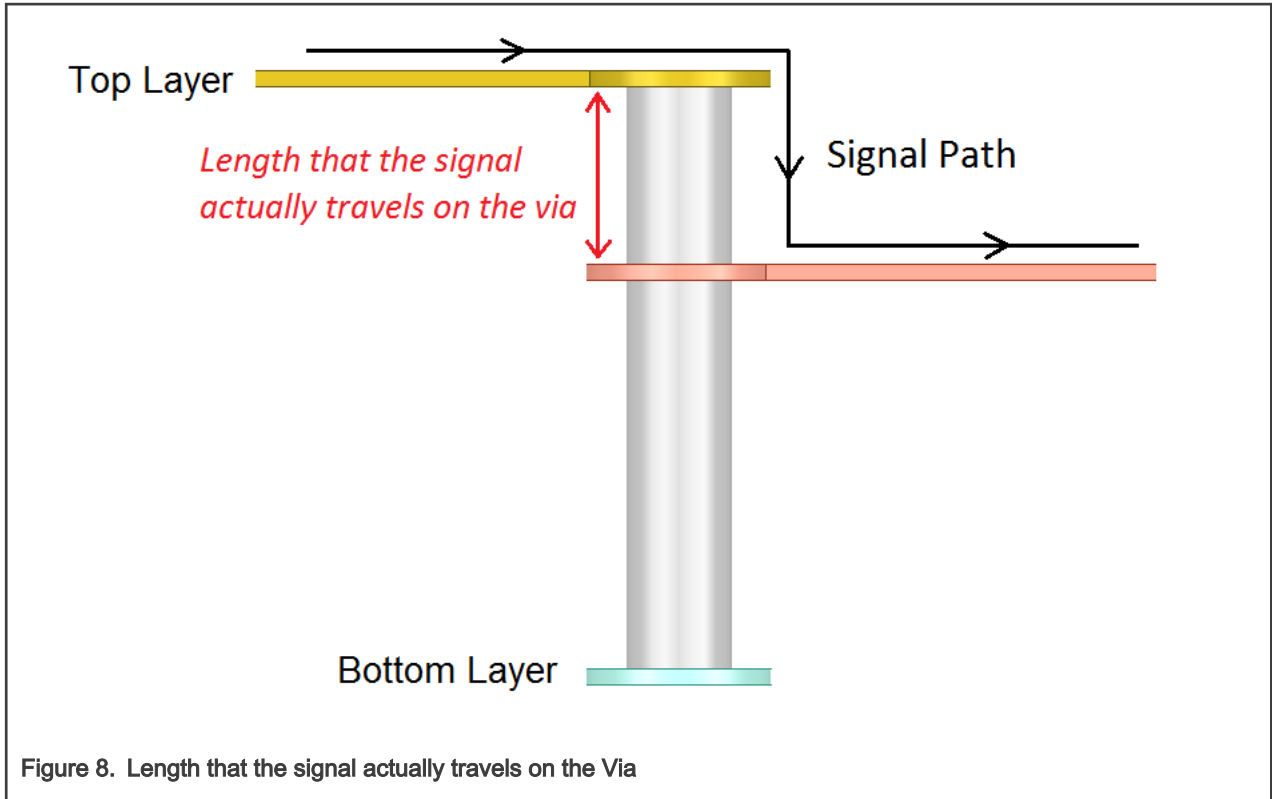

Figure 8. Length that the signal actually travels on the Via
- 10. Place at least one ground stitching via within 40 mils of signal via when switching reference planes to provide continuous return path and reduce crosstalk. If it is not possible to place enough ground stitching vias due to space limitation, try to make the length that the signal actually travels on the via as short as possible, as illustrated in Figure 8.